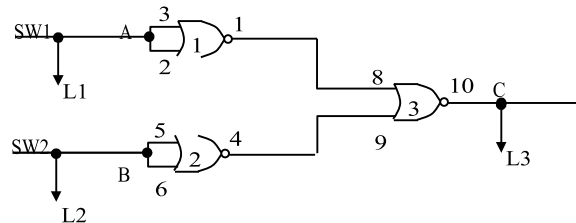
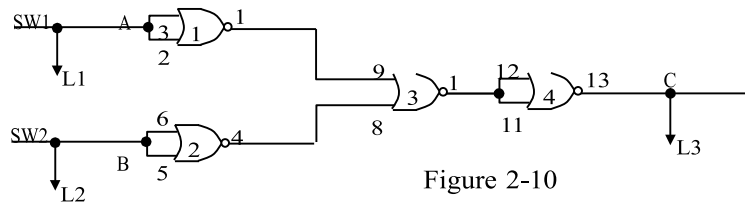

Figure 2-9
Figure 2-10
34. Connect the circuit shown in Figure 2-9. Monitor the inputs and output on LED indicators L1, L2, and L3. With SW1 (A) and SW2 (B), apply the input shown on Table 13. Record the output state corresponding to each set of inputs. Use positive logic.
35. Study Figure 2-9 and Table 13. What logic function is being performed? **AND LOGIC**
36. Modify your circuit in Figure 2-9 by adding the fourth gate in the 7402 to the output as shown in Figure 2-10. Only the output change is shown. The rest of the circuit stays as in Figure 2-9.